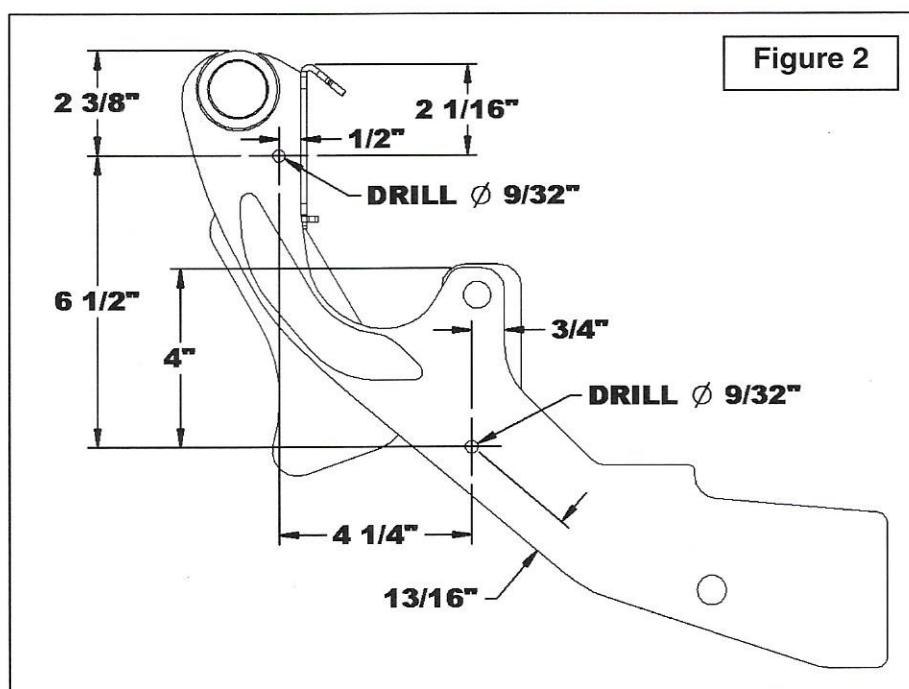

Figure 2
3. **Figure 2:** Check if the two Ø 9/32" holes shown in the figure are existing. Otherwise, drill two Ø 9/32" holes on the left side of the GR2700B subframe hitch according to the measure in the figure.